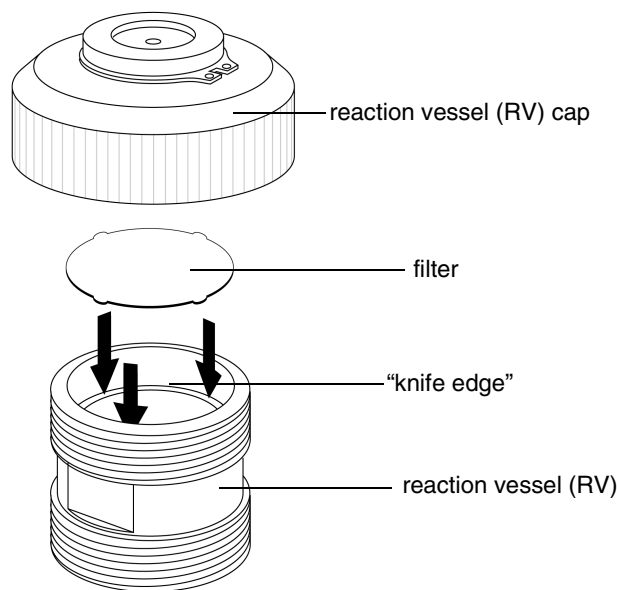

Figure 2-1. Placing RV filter on inner knife edge of reaction vessel
1. Hold the RV in a vertical position and place an RV filter on the protruding “knife edge” found just inside the openings at either end of the RV (Figure 2-1). The filter forms a seal with the knife edge when the RV cap is screwed in place.